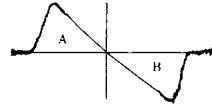

Fig. 10
2. Short-circuit the OSC stage as described in Caution 1. Adjust the primary core (lower) of T201 so that the output is like the S curve shown in Fig. 10 with A and B symmetrical with respect to C. Adjust the secondary core (upper) so that the straight line of the S curve can be achieved. At the time of adjustment in Caution 1 and 2, center of the marker will sometimes not correspond to that of the waveform because of the ceramic filters used.